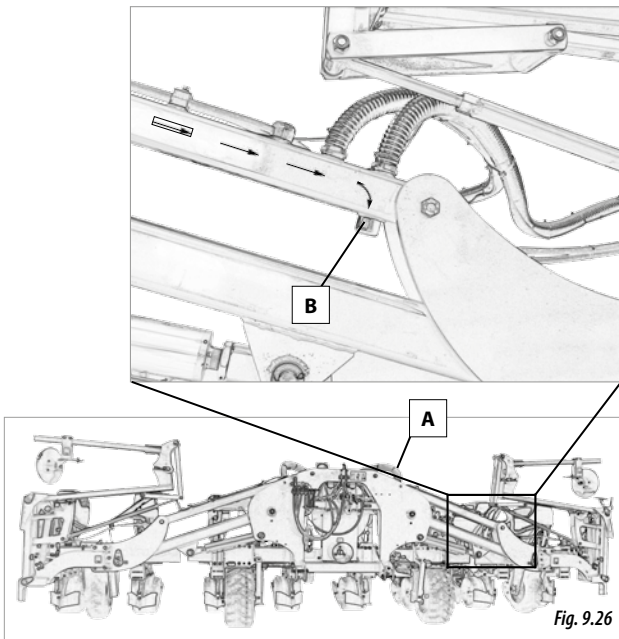

Fig. 9.26
- 2-** Remove the lower cap of the folding parts' air reservoir (B, Fig. 9.26).
- 3-** Use compressed air to blow air into the folding parts' air reservoir in the direction indicated by the arrows in Fig. 9.26.
- 4-** Place the lower cap back (B, Fig. 9.26) and connect the suction duct (A, Fig. 9.26).